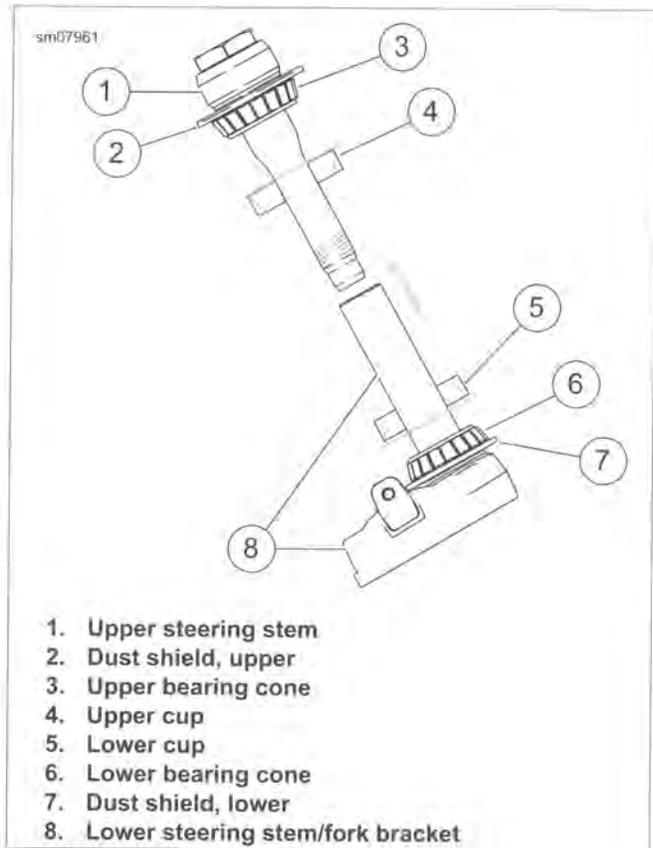

Figure 2-69. Steering Stem Bearings
5. See Figure 2-69. Remove upper steering stem (1).
6. Remove lower steering stem/fork bracket (8).
3. See Figure 2-69. Install upper (2) and lower (7) dust shields. Press bearing cones onto upper and lower stems.